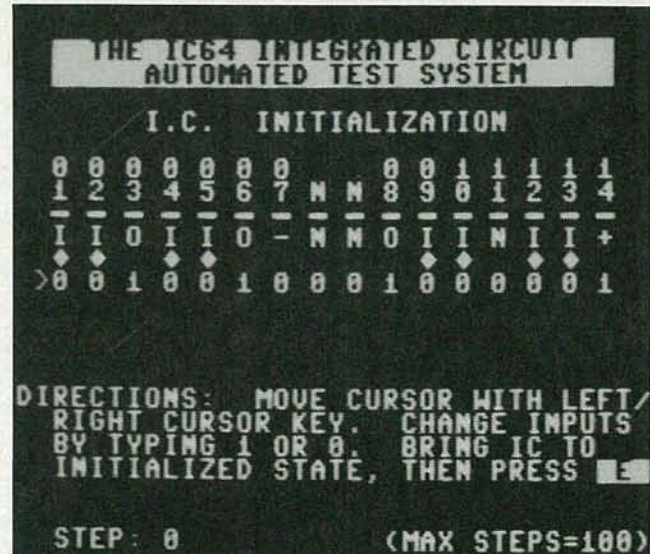

FIG. 6—THE FIRST TEST INITIALIZES each IC to a standard setup. The N shown for pin 11 indicates we don't care what the result will be on that particular pin.
with each input pin marked with a diamond. During initialization the cursor will only move to the defined input pins. To illustrate the power of the tester, we will deliberately attempt to fool it by entering false data. As shown in Fig. 6, the definition for a NAND gate, we have defined output pin 11 with an N; meaning that we aren't interested in its result. It automatically displays a 0 even though its inputs, pins 12 and 13, should produce a high output. If you haven't done so yet, insert a known-good NAND GATE IC into the ZIF socket. Insert the black ground wire into position 7 or 10 of SO1 to apply ground to pin 7 of the DUT. Insert the red power wire into position 1 or 16 of SO2 to apply power to pin 14 of the DUT.
You want to initialize the IC to insure that all DUT's start out in the same state. As shown in Fig. 6, we'll change all the inputs to a low (0): Start by positioning the cursor at pin 1 and enter 0; then move the cursor to pin 2 and press 0. Since both inputs to the AND gate are now a 0, note that pin 3 changes to 1.